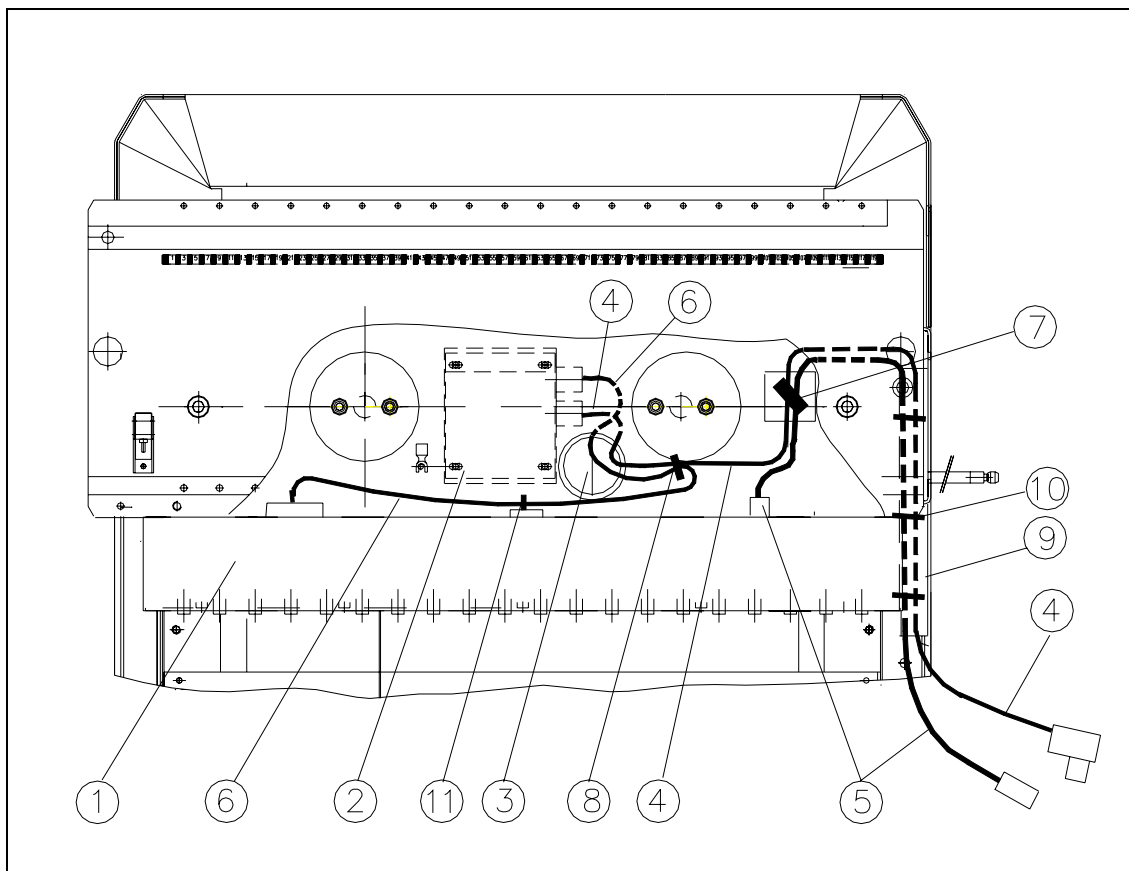

Fig. 9.5.3 Overview: Cable Guide at the Component Changeover Table
→ Remove the 3 cable ties in the cable duct and the cable tie of the fixing pedestal on the top of the frame (see Fig. 9.5.3 -> 7, 10).
- Run the cable "Control signals, component table SMD" in the cable duct and attach the 5 cable ties (see Fig. 9.5.3 -> 7, 10, 11). Item No. of the cable tie: see Section 9.2.